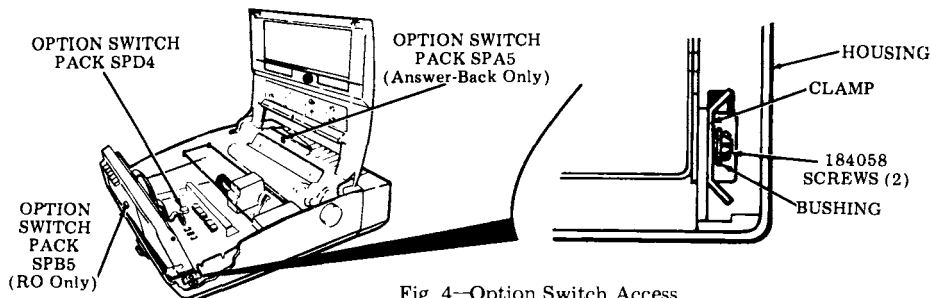

Fig. 4—Option Switch Access
3.02 Loosen the two 181240 screws (one each side) on the side frames securing the operator console in place (Fig. 4).
3.03 Loosen the two 184058 bushing clamp screws (one each side) and gently lift the rear edge of the operator console assembly, pivoting it forward on the front mounting pins (Fig. 4).
3.04 Locate the option switch pack SPD4 (Fig. 4) on the logic circuit card and activate the option switches in 4. OPTIONS, as required.
3.07 Locate the option switch pack SPB5 (Fig. 4) on the RO operator console and activate the option switches in 4. OPTIONS, as required.